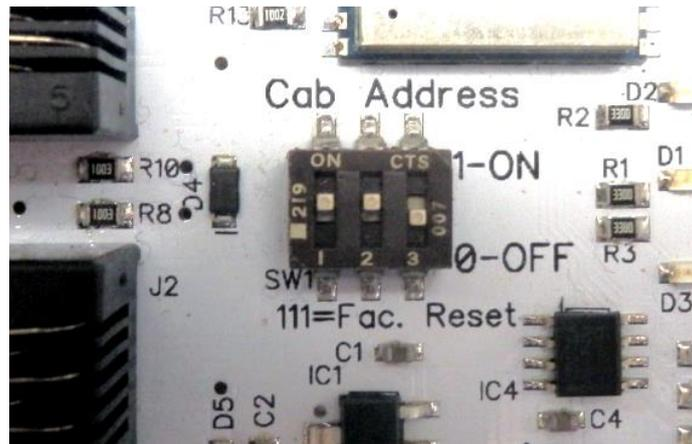

Figure 89 The DIP Switches in default position. Cab bus address 10 selected.
- (1) Remove power to the WFD-30 module
- (2) Set all the DCC Address switches to their “1” or “On” positions
- (3) Power up the module, wait 10 seconds, then power down.
- (4) Return the switches to their positions to select the NCE Cab Bus Address that you require. DO NOT LEAVE THE SWITCHES IN THE FACTORY RESET POSITION OR THE MODULE WILL RESET EACH TIME YOU TURN IT ON. Return them to the default position shown in Figure 89 or the setting for your chosen Cab Address.
- (5) Restore Power to the module.